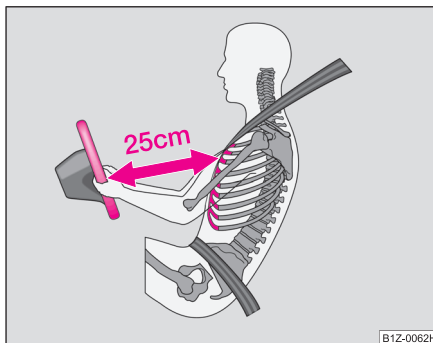

Fig. 88 Safe distance to steering wheel
- The driver must maintain a distance of at least 25 cm to the steering wheel ⇒ fig. 88. Not maintaining this minimum distance will mean that the airbag system will not be able to properly protect you - hazard!